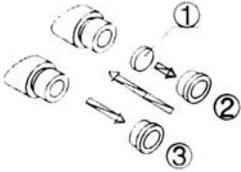

Fig.3
- (1) Turn and remove the mounting ring ② from the eyepiece. (Fig.3)
- (2) Clean the eyepiece micrometer ①, and mount it to mounting ring with the inscription side downward.
- (3) Gently twist the mounting ring with the eyepiece micrometer into the eyepiece till tightening ② securely.
- (4) To remove the eyepiece micrometer, take down the mounting ring by twisting and take out of the micrometer, and then wrap it in clean soft paper for storage.